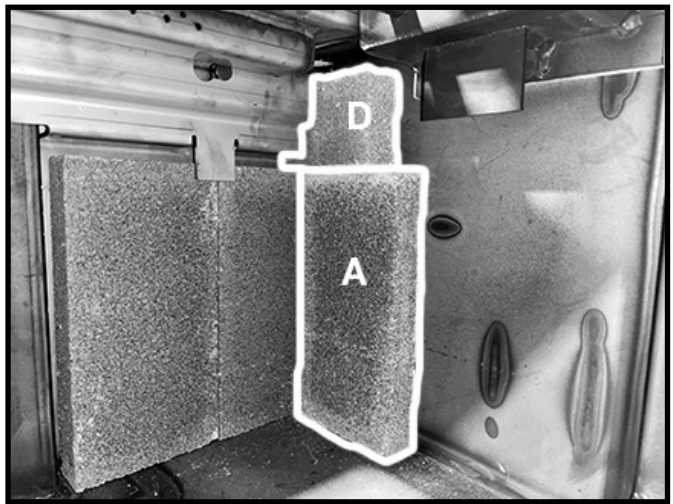

Figure 17. 1st side wall bricks in place.
4. For the side walls: Slide a "D" firebrick up into the back corner of the firebox then, while holding it in place, stand an "A" firebrick against the side wall under the "D" firebrick and up against the rear wall firebrick Figure 17.